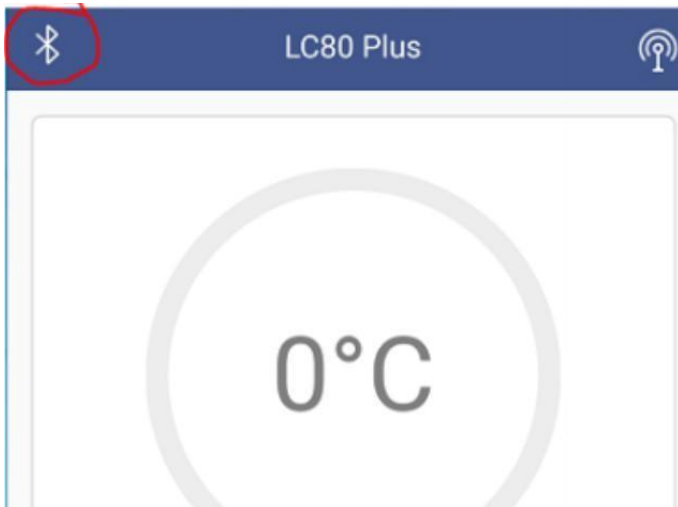

Figure 2.8
① Click the Bluetooth icon to open the Bluetooth connection, as shown in Figure 2.8.